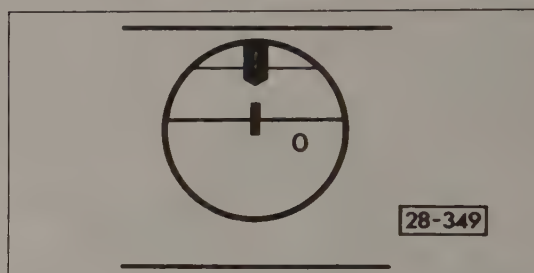

Fig. 4-5. Timing mark on flywheel aligned with pointer in timing check hole (top of bellhousing).
- With the engine idling, aim the timing light at the timing check hole in the bellhousing. The timing mark on the flywheel should appear adjacent to the pointer in the hole as shown in Fig. 4-5.
- Start the engine and let it run at idle. Gradually turn the distributor housing until the timing mark, viewed with the timing light, lines up with the bellhousing pointer. See Fig. 4-5 above.